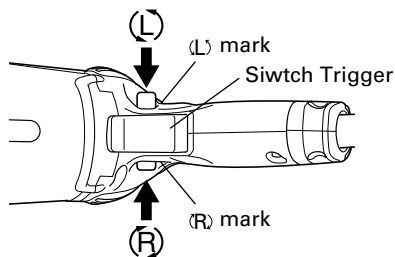

Fig. 7
9. Check the rotational direction (Fig. 7)